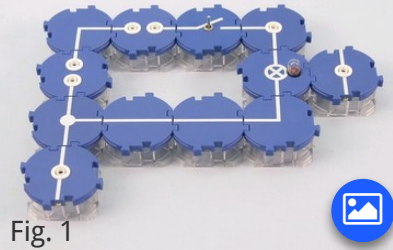
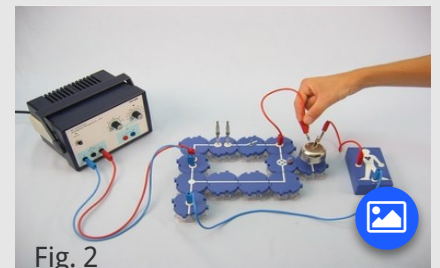

Fig. 1
Fig. 2
- Set up the experiment according to Fig. 1 and Fig. 2. Tighten the iron wire (fuse) with the help of alligator clips on the double plugs. The alligator clips must not touch each other.